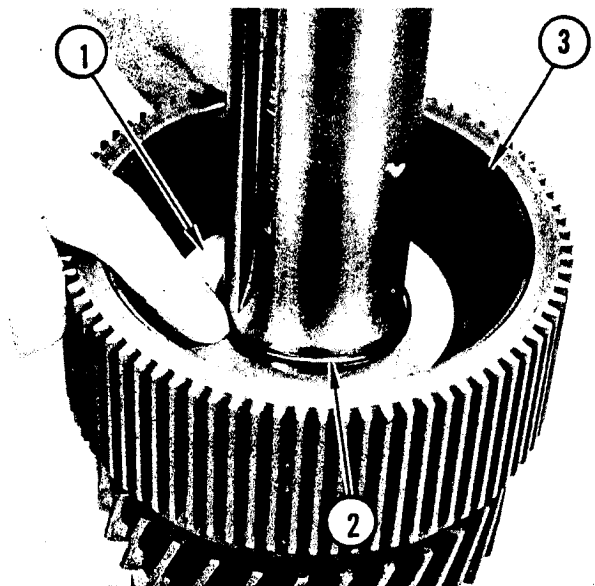

FIGURE 53. PISTON REASSEMBLY
7. When installing spacer (1) and "O" ring (2) into piston cup (3), make certain "O" ring is inside of spacer and between shaft and spacer bore. See Figure 53.